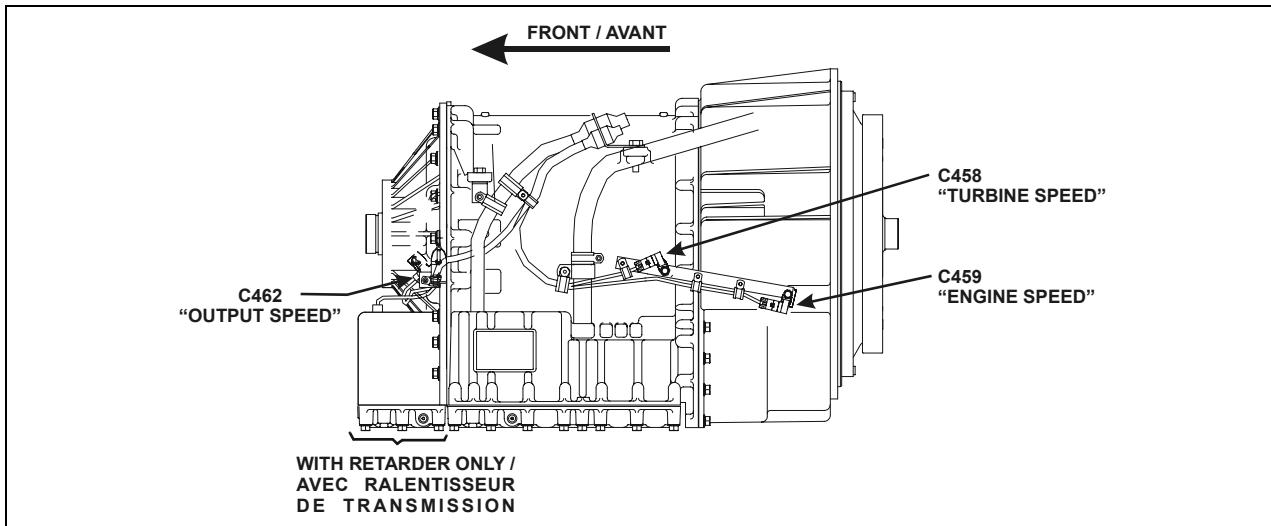

Figure 1: LOCATION OF THE CONNECTORS ON THE TRANSMISSION HOUSING
1. Using figure 1, locate the 3 speed sensor connectors which have to be modified (on transmission housing, left side of vehicle): C458 "TURBINE SPEED", C459 "ENGINE SPEED", C462 "OUTPUT SPEED".